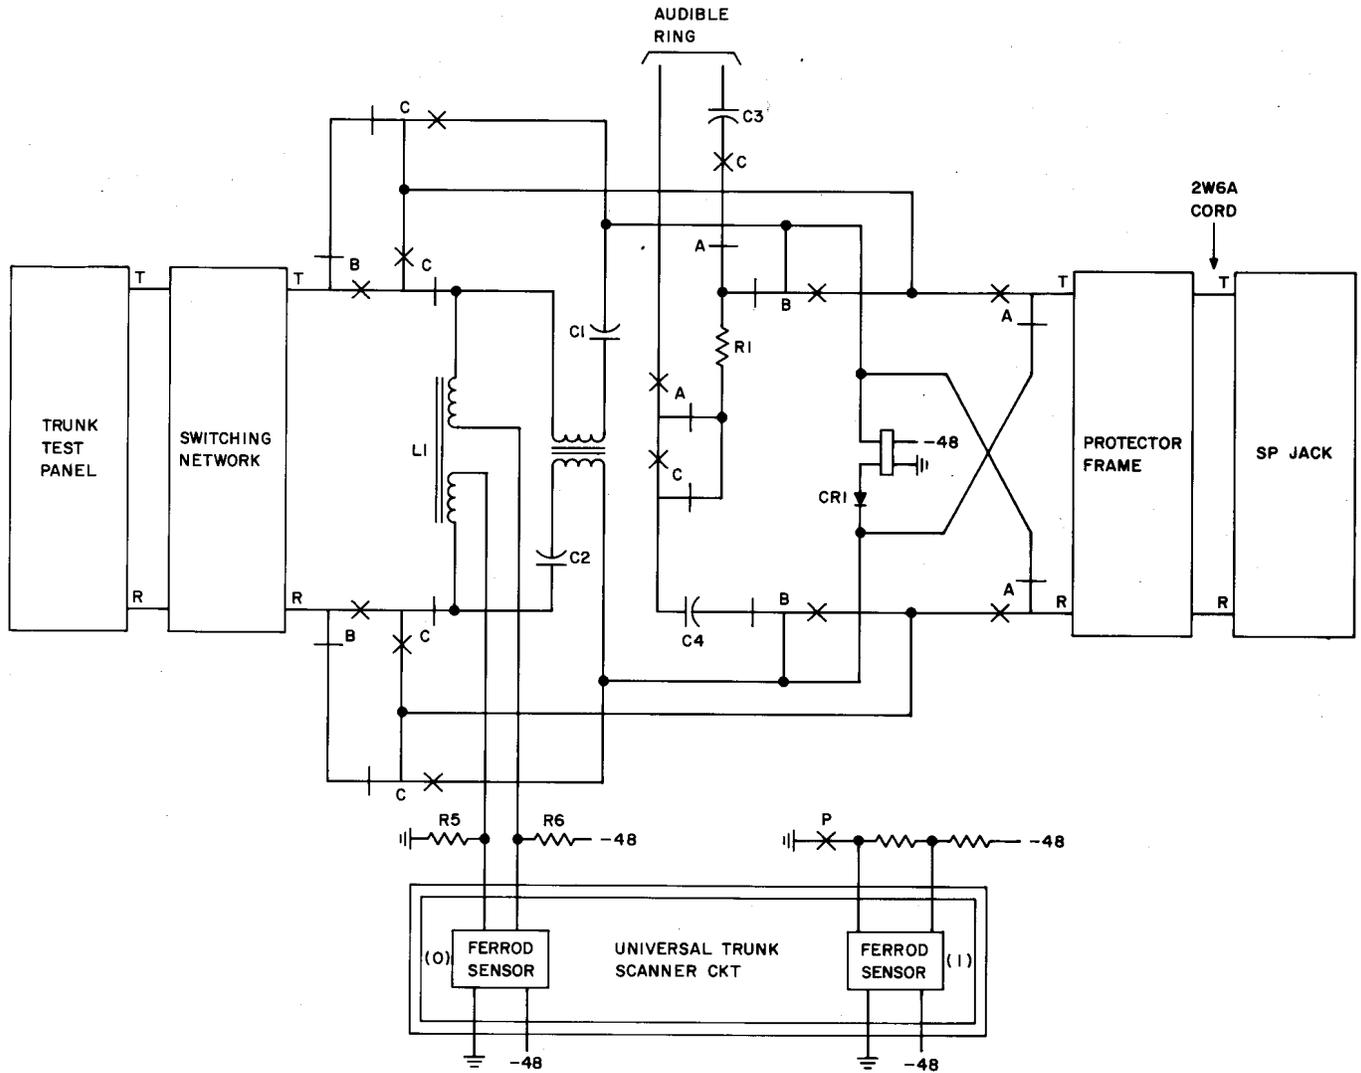
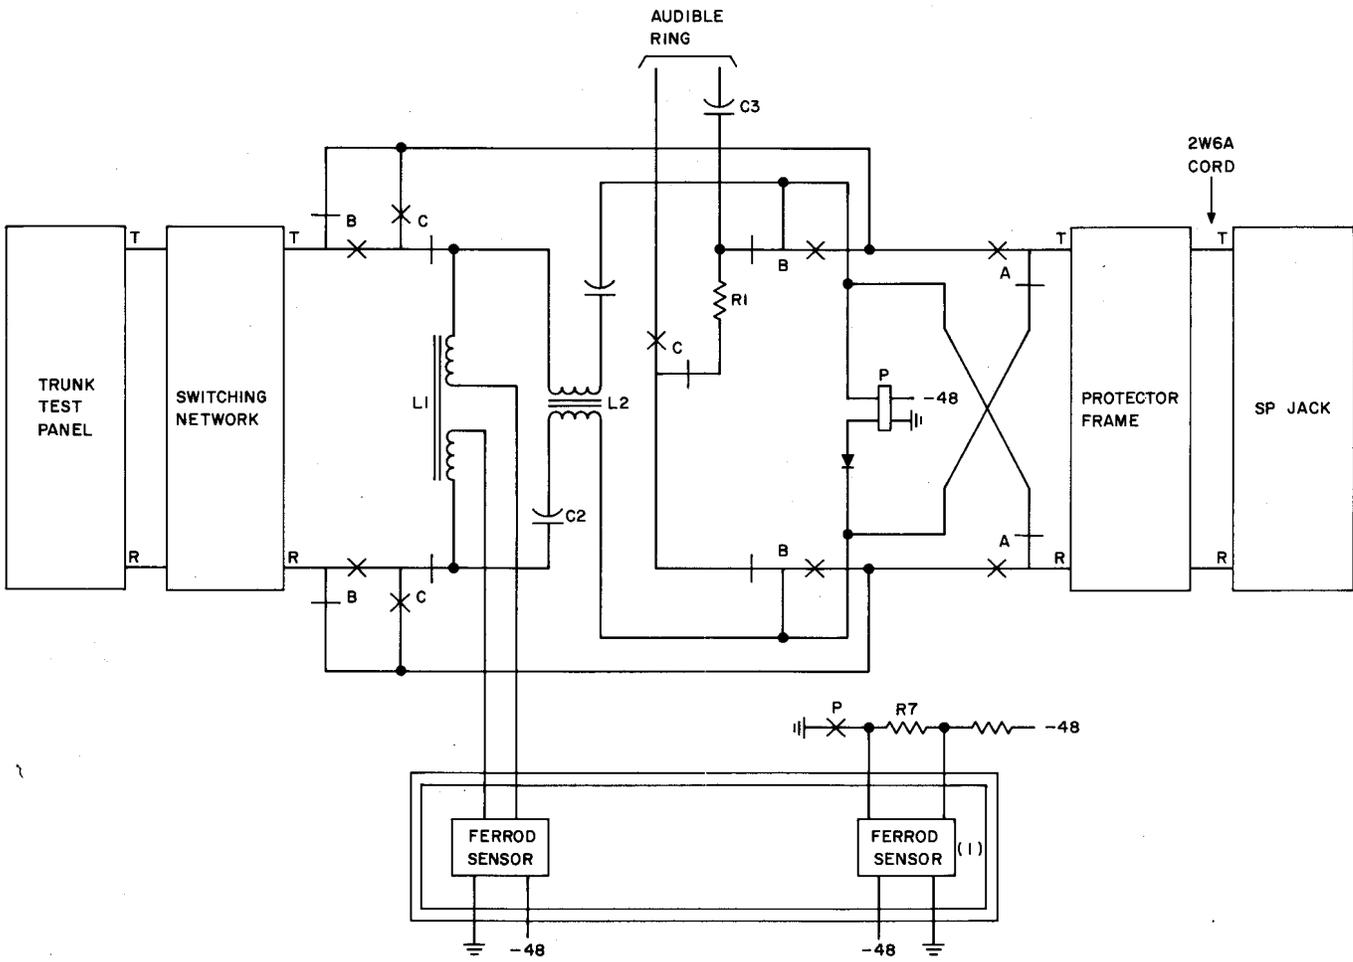

Fig. 1—Incoming Trunk Circuit (SD-2H154)
Fig. 2—Incoming Trunk Circuit (SD-2H111)
**3.06** The following is a step-by-step procedure to make the incoming trunk circuit traffic busy and connect it to the TTP (Fig. 1 and Fig. 2.)